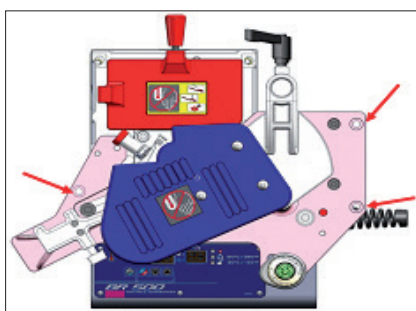

Fig. 9
- Put the Edgebander onto the worktable; follow the instruction graphically shown in Fig 9 & 10 to tighten up the three screws.